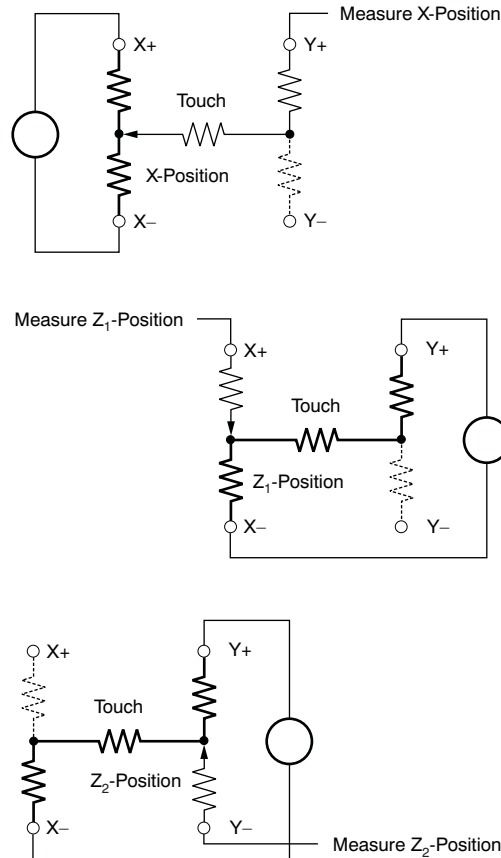

Figure 23. Pressure Measurement
Measuring touch pressure (Z) can also be done with the TSC2008-Q1. To determine pen or finger touch, the pressure of the *touch* must be determined. Generally, it is not necessary to have very high performance for this test; therefore, 8-bit resolution mode may be sufficient (however, data sheet calculations are shown using 12-bit resolution mode). There are several different ways of performing this measurement. The TSC2008-Q1 supports two methods. The first method requires knowing the X-plate resistance, the measurement of the X-Position, and two additional cross panel measurements ( $Z_2$  and  $Z_1$ ) of the touch screen (see Figure 23). Equation 1 calculates the touch resistance: